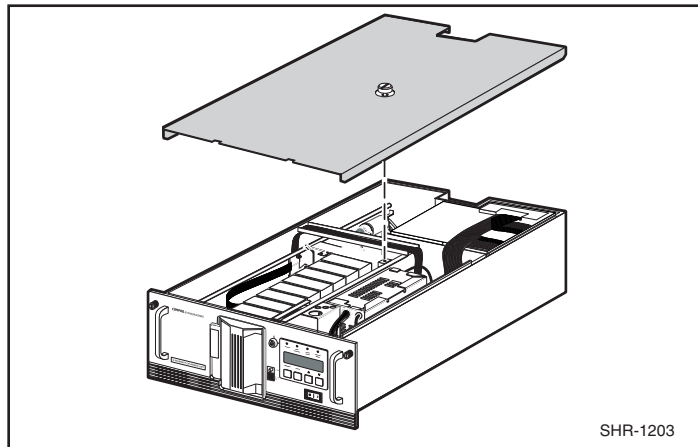

Figure 3. Removing the cover plate
3. Unscrew the captive screw in the center of the cover plate (Figure 3).
1. Place the cover plate on the Base Module so that it overhangs one-half inch at the rear of the module (Figure 3).